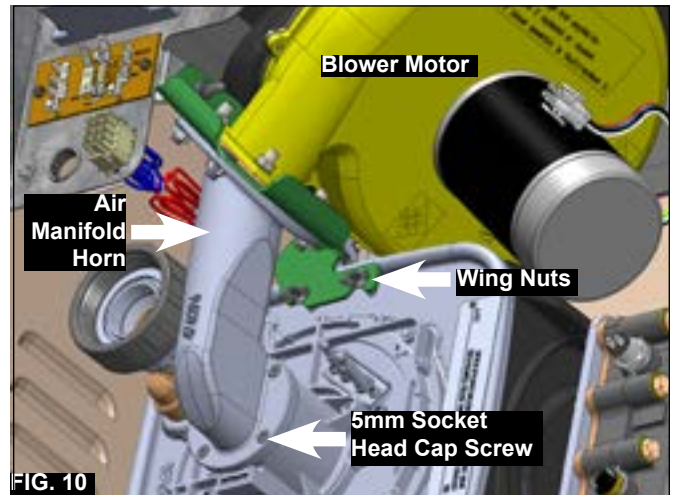

FIG. 10
9. Loosen the Wing Nuts (x2) on the blower bracket. Remove the Blower Motor and set aside. Next, Using an Allen wrench, Remove the socket head Cap screws (x4) that secure the Air Manifold (horn) to the burner manifold assembly and Remove. Set aside. (Fig 10, 11).